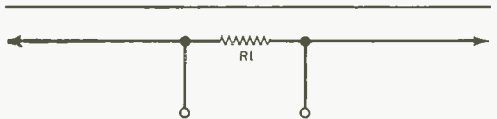

Fig. 4. Current.
**Typical Test Point Circuits.** Resistance and capacitance values for test point takeoff circuits should be chosen after determining the electronic circuit's natural impedance level. Think about frequencies, too, and test gear characteristics. Component values at test point takeoffs are not critical. Resistors are generally 100,000 ohms (except for circuits such as those shown in Figs. 4, 7, and 10, later in this article, where 50-500 ohm values are appropriate). Capacitors can be 0.1  $\mu\text{F}$  for hi-fi circuits; 0.01  $\mu\text{F}$  for audio and i.f. circuits; 0.001  $\mu\text{F}$  for r.f.
opening the jack breaks the circuit. Also, whatever d.c. voltage the electronic circuit carries will appear at the test point. These objections may be partially overcome by adding a small series resistor to the circuit, as in Fig. 4, and measuring the voltage appearing across it. Ohm's law converts the voltage measurement to a current reading.